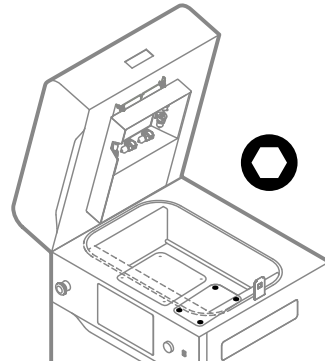

Fig. 12.29 Tighten the four screws securing the Print Bed cover.
23. Using a 2,5 mm allen key, tighten the four screws securing the Print Bed cover (fig. 12.29).